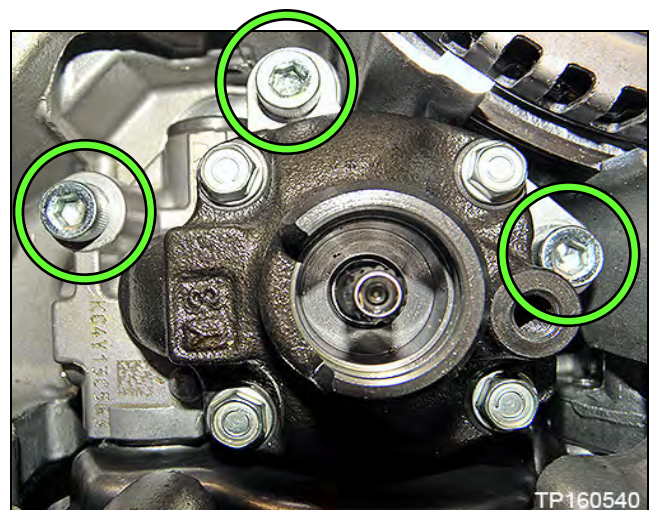

Figure 23B
- b. Remove the three oil pump Allen-head bolts, and remove the oil pump (Figure 23B).